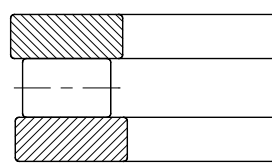

Fig. 2.18
**Cylindrical rollers thrust bearings** (fig. 2.18) are of very simple design consisting of a shaft washer, housing washer, cage and roller assembly. Cylindrical roller thrust bearings are capable of supporting higher loads compared to thrust ball bearings, therefore, are suitable for applications where very high thrust load carrying capability is required. These bearing types are insensitive to shock loading, unsuitable for radial loading and do not permit any misalignment.